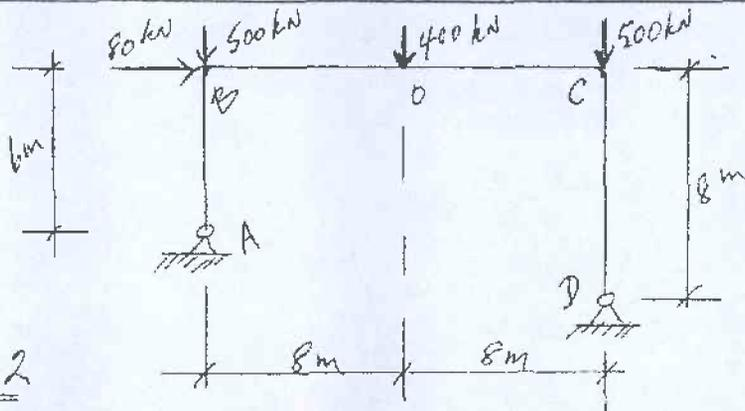

FIGURE 2
2. Figure 2 shows a steel rigid frame, to be designed with a constant plastic moment capacity,  $M_p$ . Using the Plastic Method of Design:
3. For the loaded steel rigid frame in Figure 2:
5. Figure 2 shows a reinforced concrete frame to be designed using the Limit States Design Method. The members of the frame can be assumed to have the same stiffness. Determine a suitable rectangular cross-section for member BC, showing the amount and layout of the reinforcing steel for both flexure and shear.
[Assume the frame in Figure 2 is braced at joints A, B, C and D.]